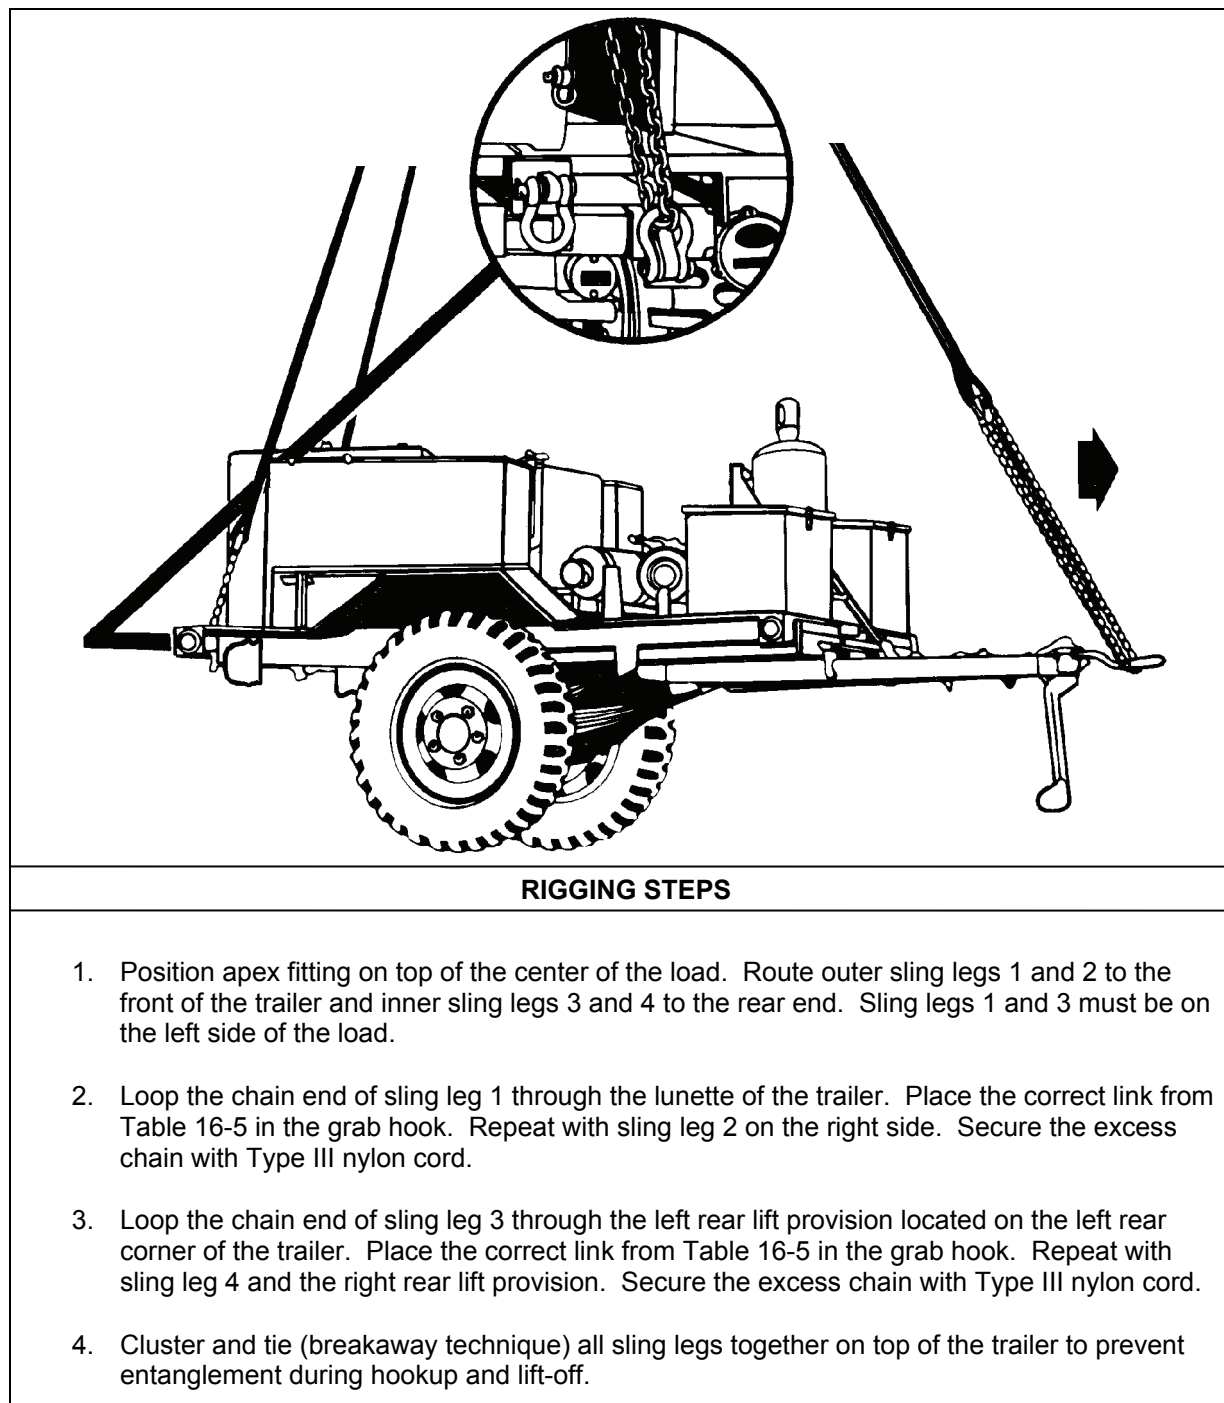

Figure 16-5. Trailer-Mounted Welding Shop
- **Rigging.** Rig the load according to the steps in Figure 16-5.